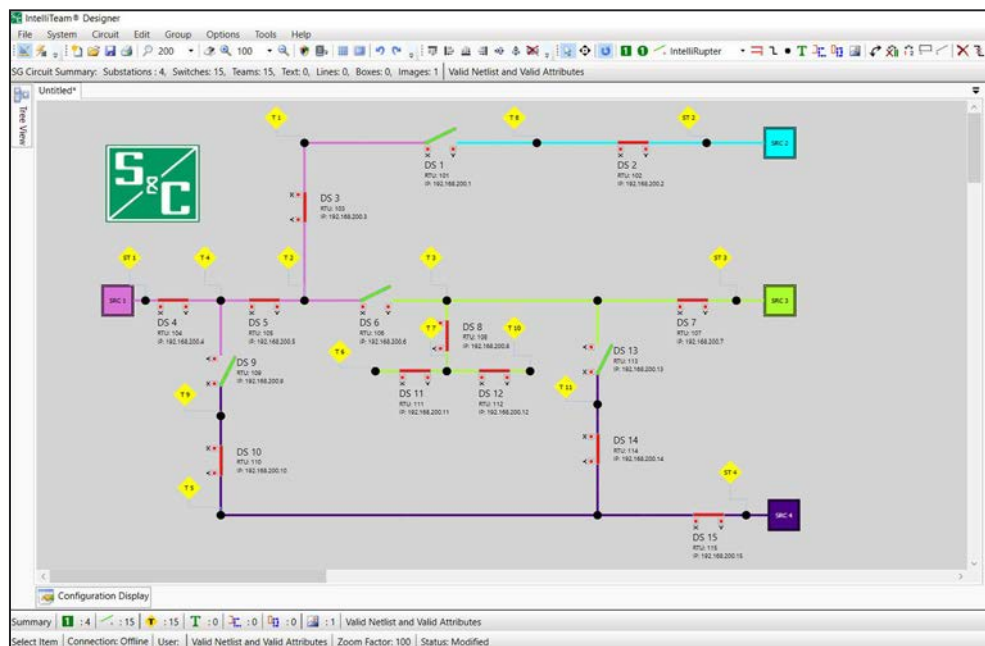

Figure 81. When a validation is successful, the circuit is ready to deploy.
STEP 7. Run the **Validate** command to display any new errors. Correct the errors and save the work. The IntelliTeam SG system is now configured and ready to deploy the IntelliTeam SG system device attributes. See Figure 81.